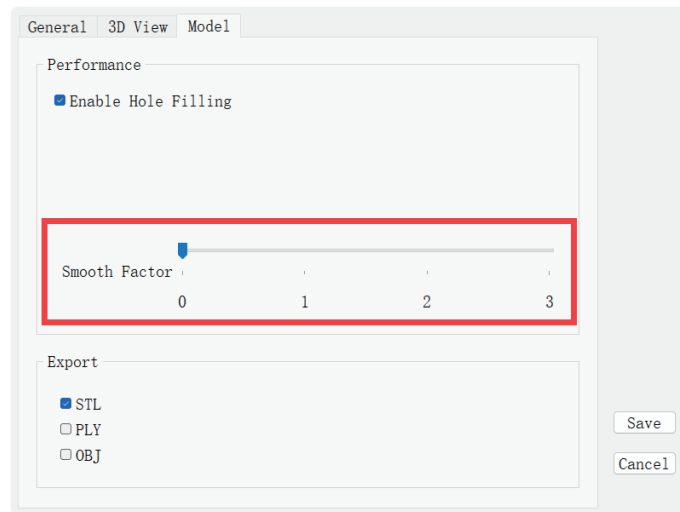

Figure 5-3
(3) In Model--Performance, the larger the Smooth Factor value, the smoother the scanned model will be. See Figure 5-3.